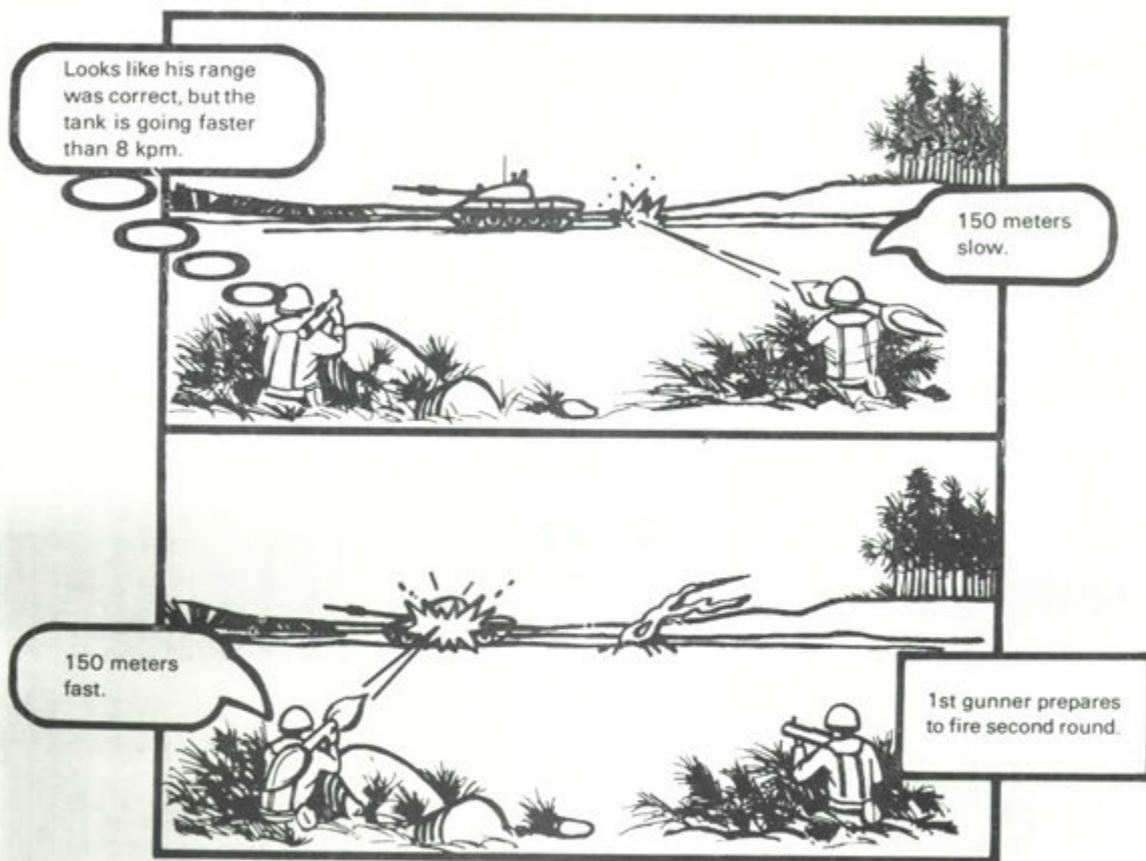

Figure 7.
d. **Pair firing.** One target is engaged by two or more individuals, each individual with two or more LAWs. The first individual announces the estimated range and leads he will use, and fires. The second individual observes the impact of the first round, announces a revised estimate of range and leads, and fires. The individuals continue exchanging range and lead information until a hit is achieved (figure 7). Both gunners continue to fire until the target is destroyed.